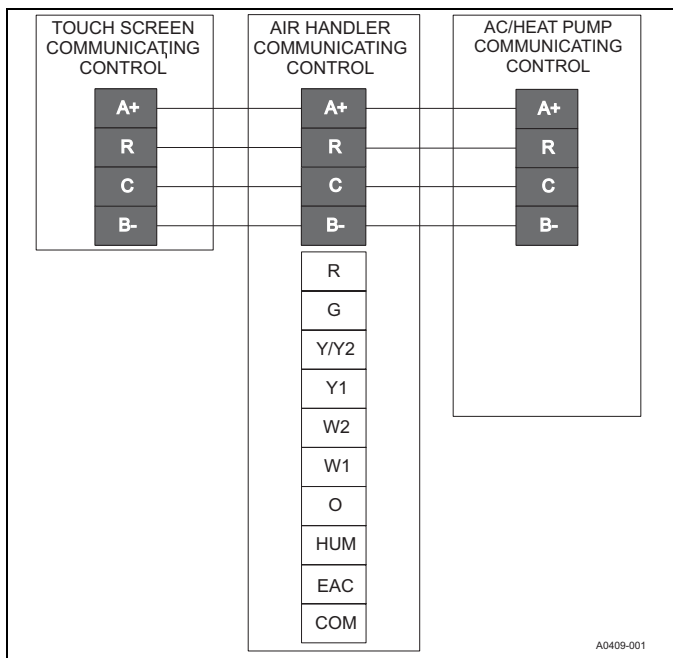
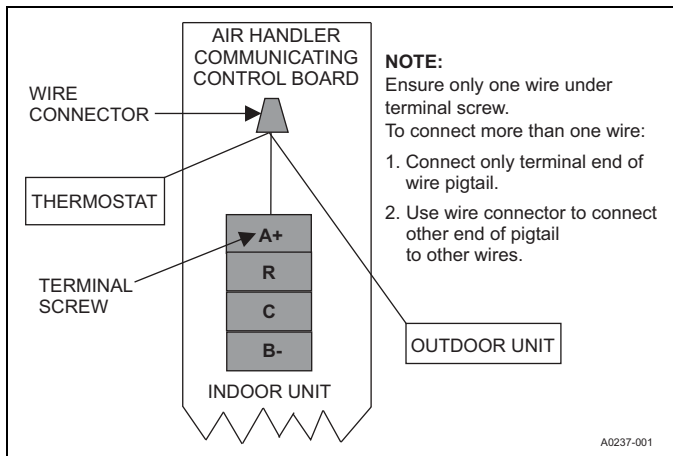

Figure 22: Air handler with communicating AC or HP
Figure 23: Multi-wire terminal connection
To further minimize air leakage, seal the wiring entry point at the outside of the unit. Connect the field wiring at the pigtails supplied with the air handler. See **Figure 17** to **Figure 23** for low voltage system wiring.
The communicating system consists of several intelligent communicating components, including the communicating thermostat control (touch-screen wall thermostat), variable speed air handler (21 SEER), air conditioner (19 SEER two-stage air conditioners) or heat pump (19 SEER two-stage heat pumps), that continually communicate with each other using a four-wire connection called the A-R-C-B bus. Commands, operating conditions, and other data pass continually between components over the A-R-C-B bus. See **Figure 22**. The result is a new level of comfort, versatility, and simplicity.
Use the wiring diagram in **Figure 22** to connect the air handler control,
touch-screen communicating control (wall thermostat), and communicating outdoor unit. Ensure all of the A+ terminals are connected together, all of the B- terminals are connected together, all of the C terminals are connected together, and all of the R terminals are connected together. See **Figure 22** and **Figure 23**. When using a fully communicating system, remove the low voltage signal connector from the control board at the T3 connection and leave the low voltage wiring in place for future use. Use the four small screw terminals (ARCB connection) on the terminal block on the end of the air handler control.
**Important:** Do not place more than one wire under any single communication terminal screw (there are four communication terminal screws). If more than one wire must be connected to a terminal screw, attach only the terminal end of a one wire pigtail no longer than 6 in. and use a wire connector to connect the other end of the pigtail to the other wires. Failure to do this may result in nuisance communication error faults. See **Figure 23**.